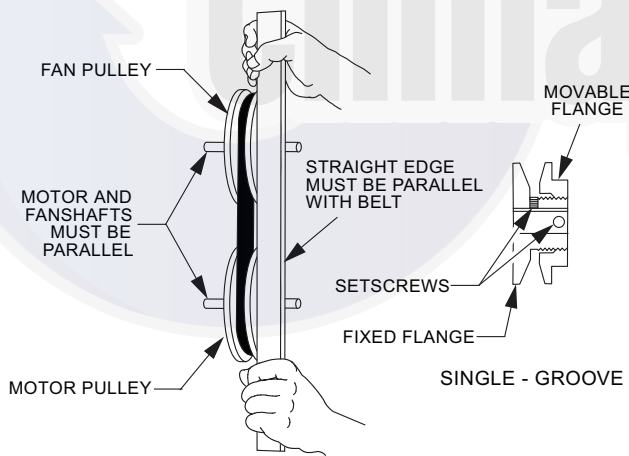

Fig. 10 — Supply-Fan Pulley Adjustment
The motor pulley is an adjustable-pitch type that allows a servicer to implement changes in the fan wheel speed to match as-installed ductwork systems. The pulley consists of a fixed flange side that faces the motor (secured to the motor shaft) and a movable flange side that can be rotated around the fixed flange side that increases or reduces the pitch diameter of this driver pulley. See Fig. 10.
3. Loosen movable pulley flange setscrew. See Fig. 10.